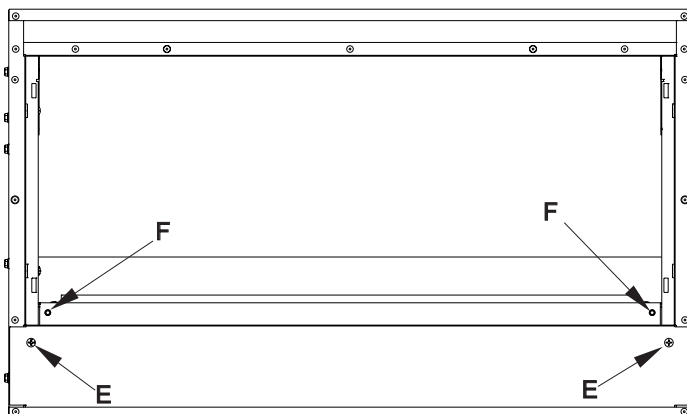

Figure 42
6. Remove screws at "E". Remove bottom of face by lifting and set aside in a safe location. See Figure 42.
7. Remove screws at "F". Remove burner assembly and set aside in a safe location. See Figure 42.
15. Place burner assembly inside fireplace and replace screws removed earlier ("F" in **Figure 42**).
22. Replace bottom panel and re-insert two black, truss-head screws ("E" in **Figure 42**).